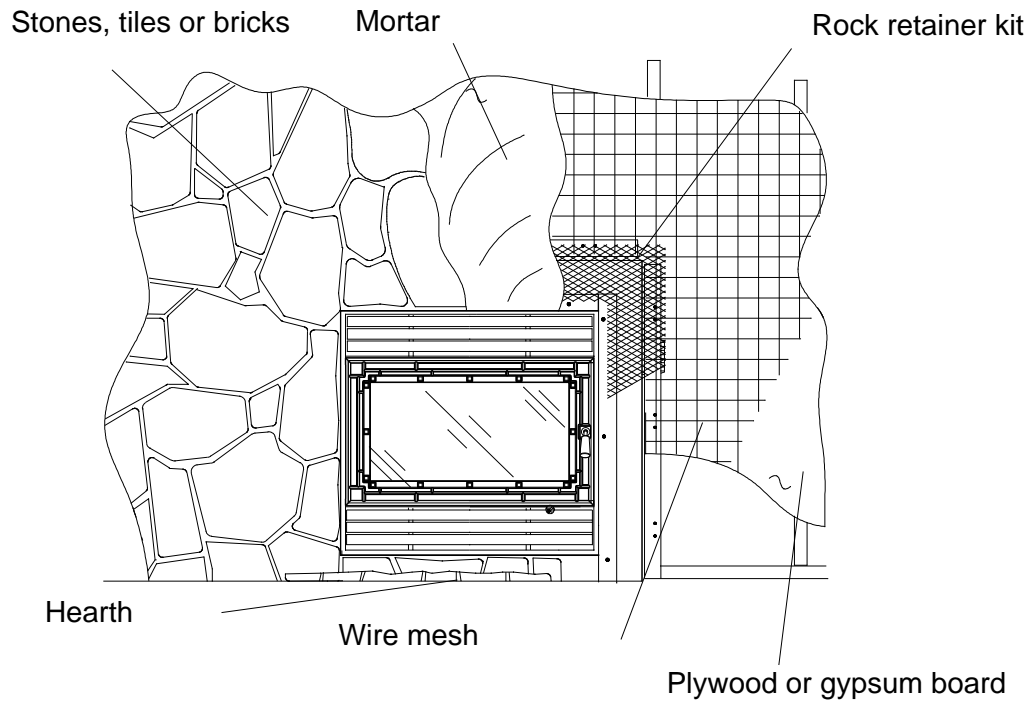

Figure 4 Detail installation of finishing materials
- 2. Using a plasterer's or mason trowel, apply a scratch coat of mortar that covers the wire mesh and screen. The mortar must be "thin set", or "thin bed" type, inherently polymer modified. If the mortar is not modified, then a synthetic latex additive should be added. Mix to a firm moist consistency. Let the mortar set before adding another coat. This will take several hours. Afterwards, apply a thinner coat and the facing. Do not spread plaster over more than a workable area so that the mortar will not set before the facing is applied. If required, use a grout bag to fill the joints. Take extra care to avoid smearing on the surface of the facing (see Figure 4).